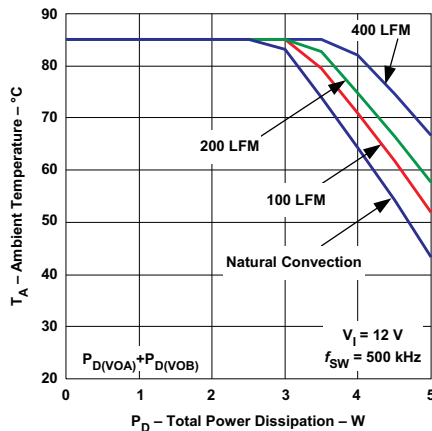
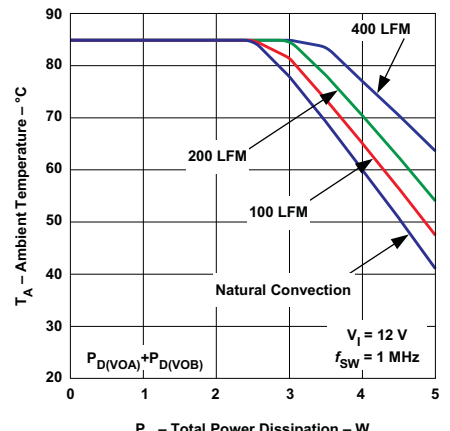

Figure 7. Safe Operating Area
Figure 9. Safe Operating Area
- (2) The temperature derating curves (Figure 7 through Figure 9) represent the conditions at which internal components are at or below the manufacturer's maximum operating temperatures. Derating limits apply to modules soldered directly to a 100-mm x 100-mm, double-sided PCB with 2-oz. copper. See the Safe Operating Area application section of this datasheet.